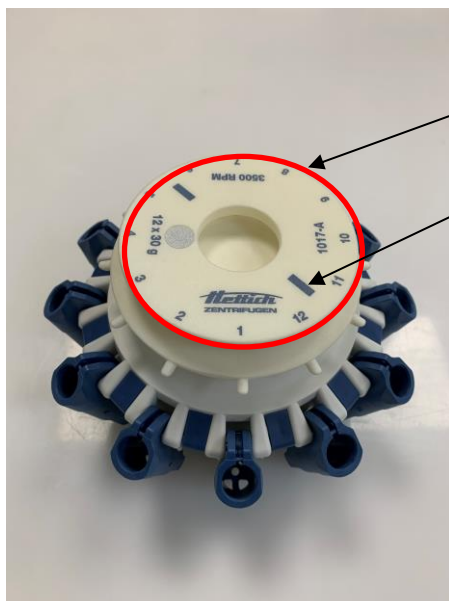

fig. 7.6
1. Grasp the rotor on the grip area (fig. 7.6, pos. 1) and place the rotor over the motor-axis.
2. Align the markings (fig. 7.6, pos. 2) on the top of the rotor with the slots on the motor-axis.